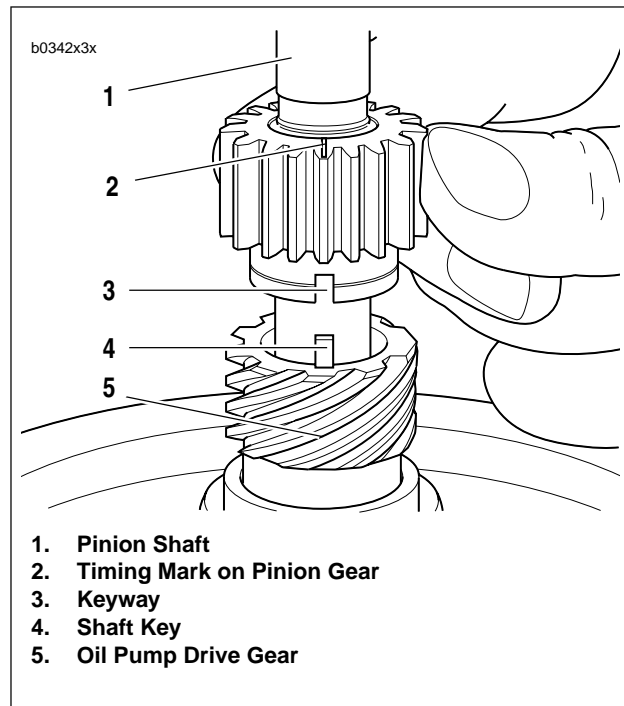

Figure 3-68. Aligning Pinion Gear
1. See Figure 3-68. Install oil pump drive gear (5) and pinion gear on pinion shaft.
- a. Slide oil pump gear drive gear (5) over pinion shaft (1). Drive gear must align with shaft key (4).
- b. Align keyway (3) in ID of pinion gear with shaft key (4).
- c. Slide pinion gear over shaft key (4) and against oil pump drive gear (5).